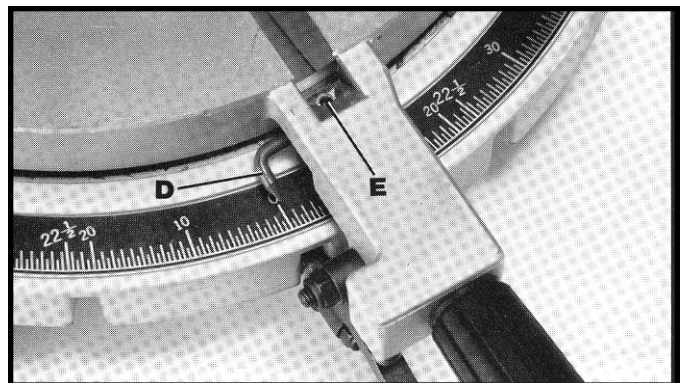

Fig. 24
6. When you are certain the cut is at 90 degrees, adjust pointer (D) Fig. 24, to point to the "0" mark on the scale, by loosening set screw (E).